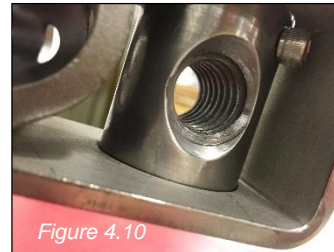

Figure 4.10
14. The screw coupling threads should be clean and lubricated. (Figure 4.10)